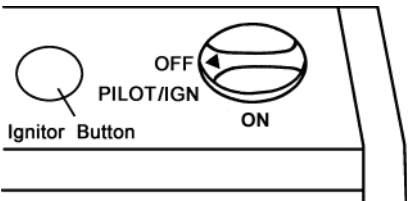

Figure 16 - Control Knob In The OFF Position (HR06ML)
3. Push in gas control knob slightly and turn clockwise  to the OFF position. (see Figures 16 & 17)
4. Wait five (5) minutes to clear out any air. Then smell for gas, including near the floor. If you smell gas, STOP! Follow "B" in the safety information on the side of the heater. If you do not smell gas, go to the next step.
5. Push in gas control knob slightly and turn counterclockwise  to "PILOT/IGN" and depress for five(5) seconds